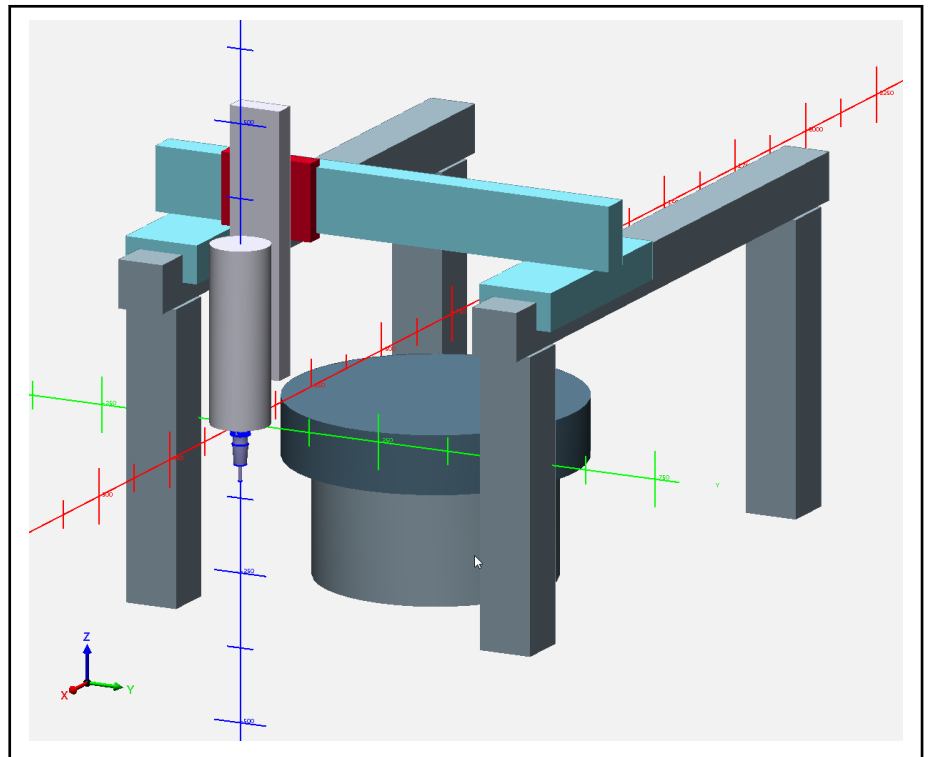

Fig. 12-1: Simulation model of the 4-axis kinematics for exercising purposes
**Targets** While installing the Virtual Machine Builder, data is provided for an exercise on how to design a simulation model of a simplified machine tool with 4-axis kinematics (fig. 12-1 "Simulation model of the 4-axis kinematics for exercising purposes" on page 51).